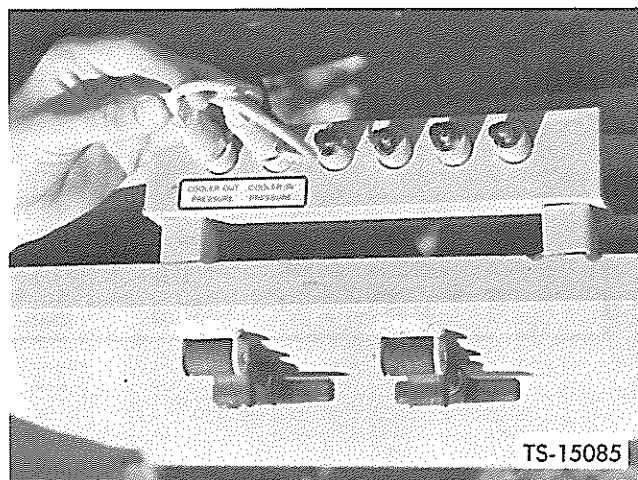

Fig. 5. Cooler IN and Cooler OUT Ports
1. Install tachometer on engine. Install gauges at cooler IN and cooler OUT pressure ports shown in Figure 5.